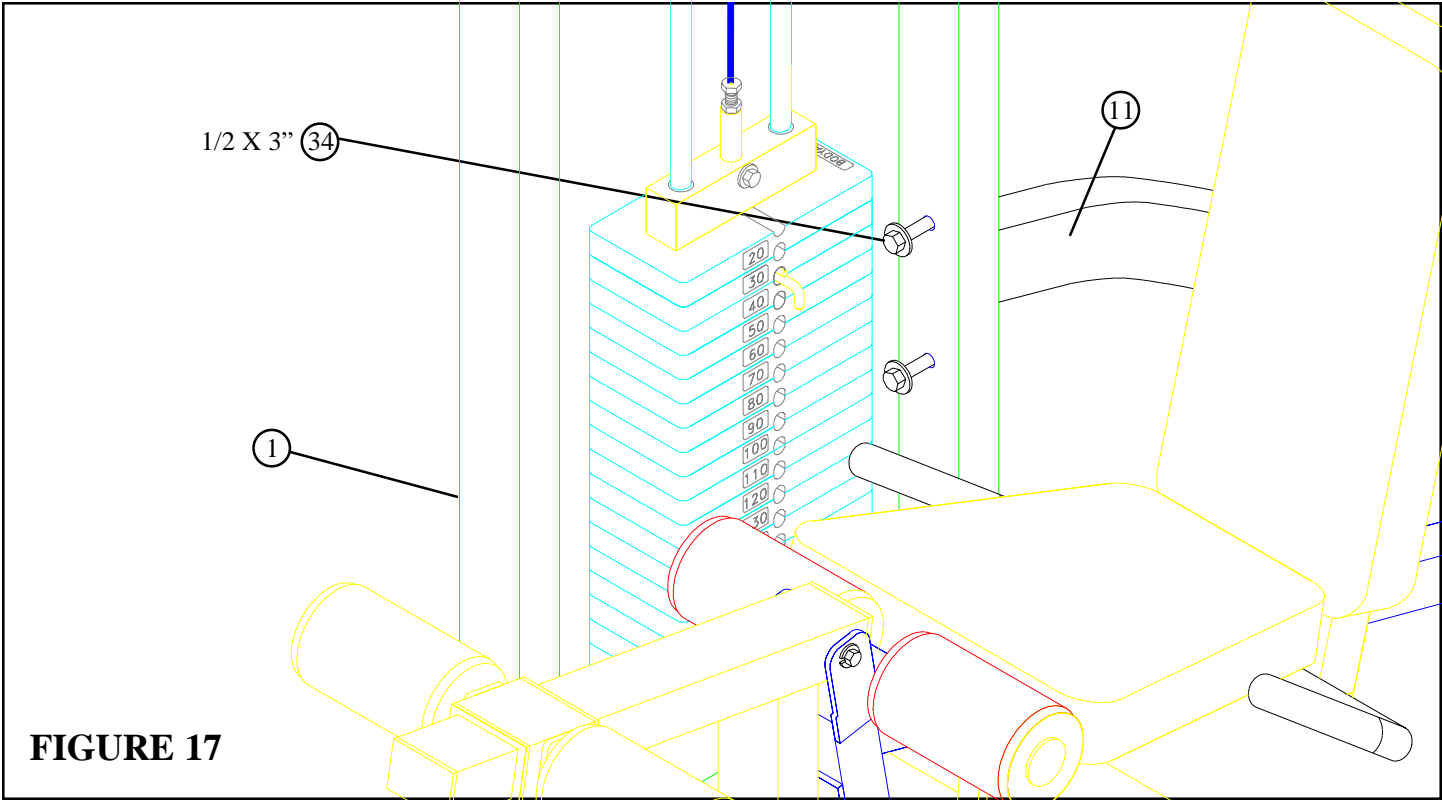

**FIGURE 16**
- Loop the threaded end of the CABLE (23) through the holes and around the pulleys in the TOWER BRACE (10) as shown in FIGURE 16.
- Screw the threaded end of the CABLE (23) approximately 3/4" into the end of the WEIGHT STACK SHAFT (19) and tighten jam nut securely. See FIGURE 16.
- If the HEAD PLATE (20) does not sit on top of the first WEIGHT PLATE (54), push the head plate down, insert the SELECTOR PIN (48) and perform several repetitions on the machine. This will relax the cable system and prevent the HEAD PLATE (20) from lifting up.
- If after completing the previous step the HEAD PLATE (20) still does not sit on top of the first WEIGHT PLATE (54) or if there is excess slack in the cable system, adjust the threaded end of the CABLE accordingly and retighten the jam nut.
- Thread two 3/8 X 1" BOLTS (38) and two 3/8" WASHERS (41) one-quarter of the way in to the threaded holes on the TOWER (1) as shown in FIGURE 16.